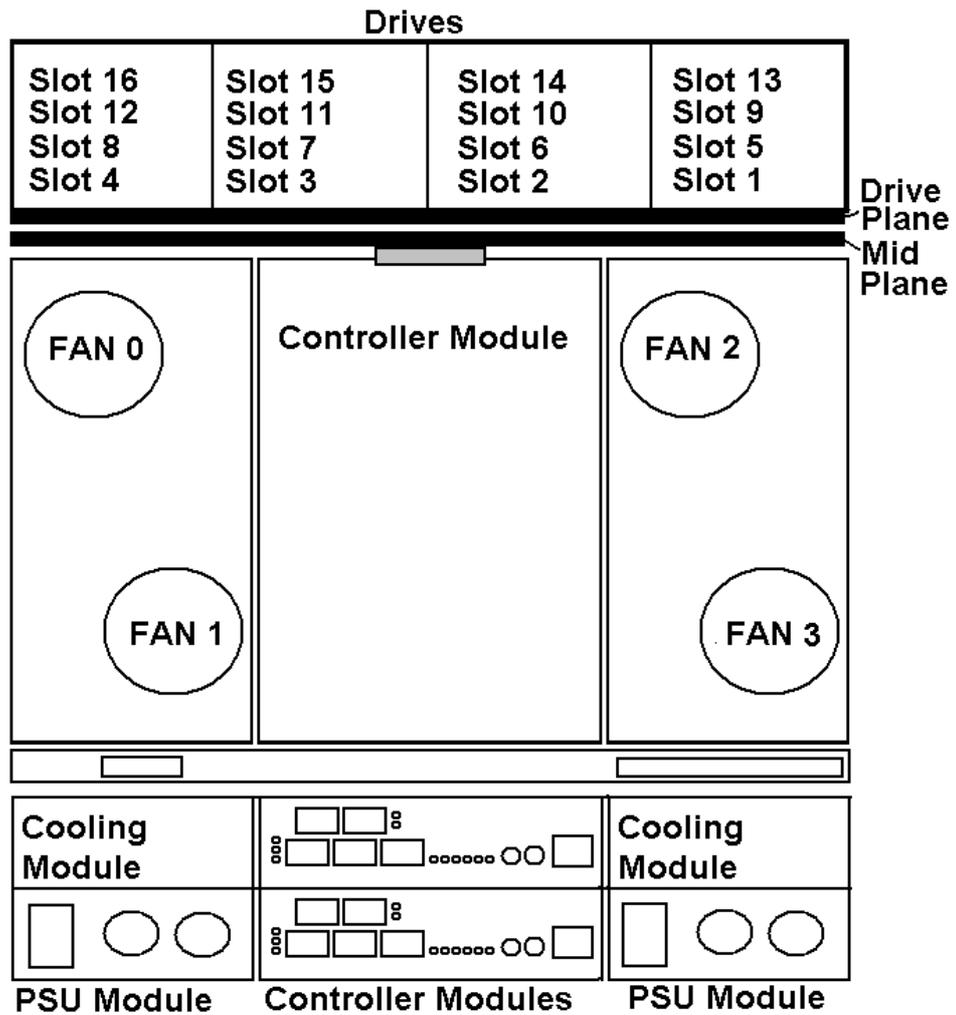

Figure 1-2: EonStor 16-bay SATA RAID Subsystem Overview
The ES A16F subsystem enclosure is a 3U metal chassis. The mid-plane and the drive-plane boards divide the enclosure internally into front and rear sections. (See *Figure 1-2*) The front section accommodates sixteen (16) drive trays (with their associated hard